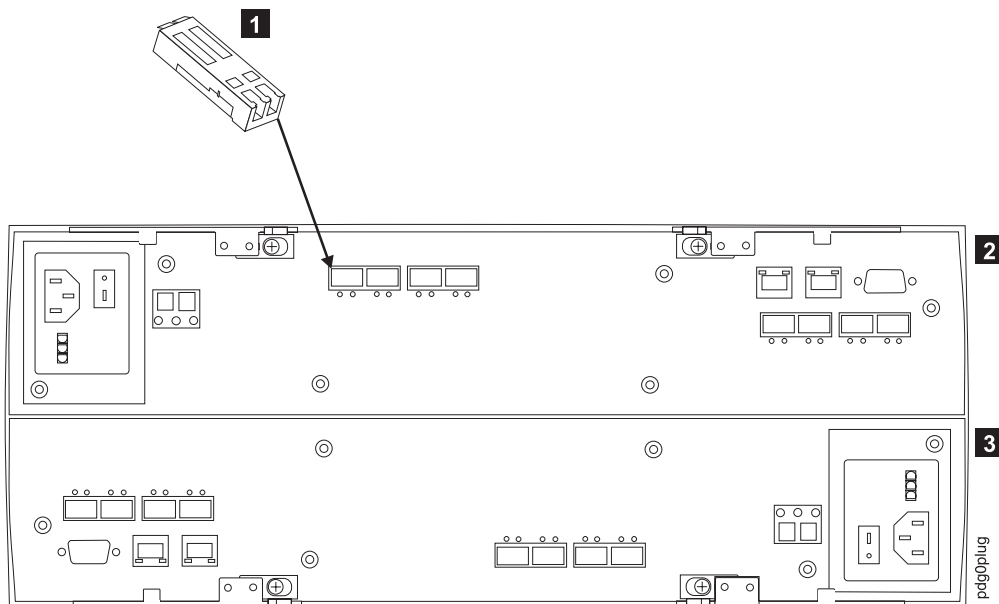

Figure 34. Install wrap plug to SFP on controller A
- b. For a FAStT500, DS4400, DS4500, DS4300, DS4100 or DS4800 RAID controller, install a wrap plug to the GBIC or SFP in the mini-hub on controller A. See Figure 34.
Table 16. Description of Figure 34